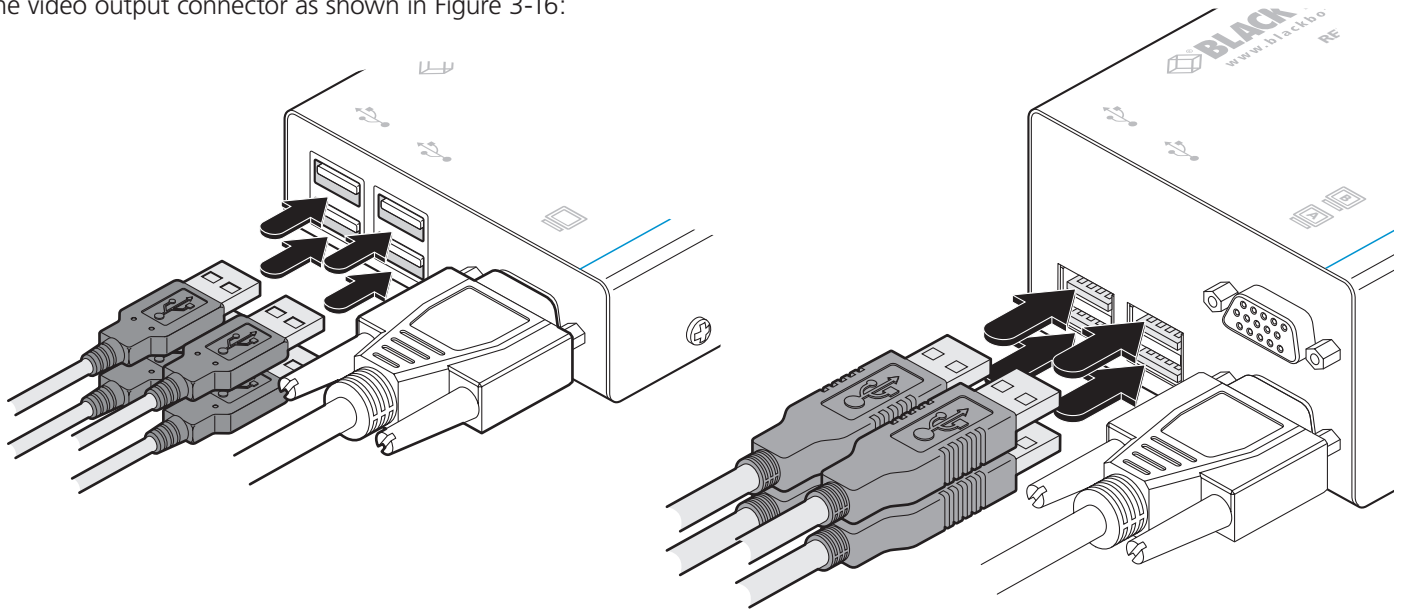

Figure 3-16. Attaching the keyboard, mouse and other USB cables
- 1 Attach the leads of up to four USB devices (two of which are usually a keyboard and mouse) to the sockets located adjacent to the video output connector as shown in Figure 3-16: